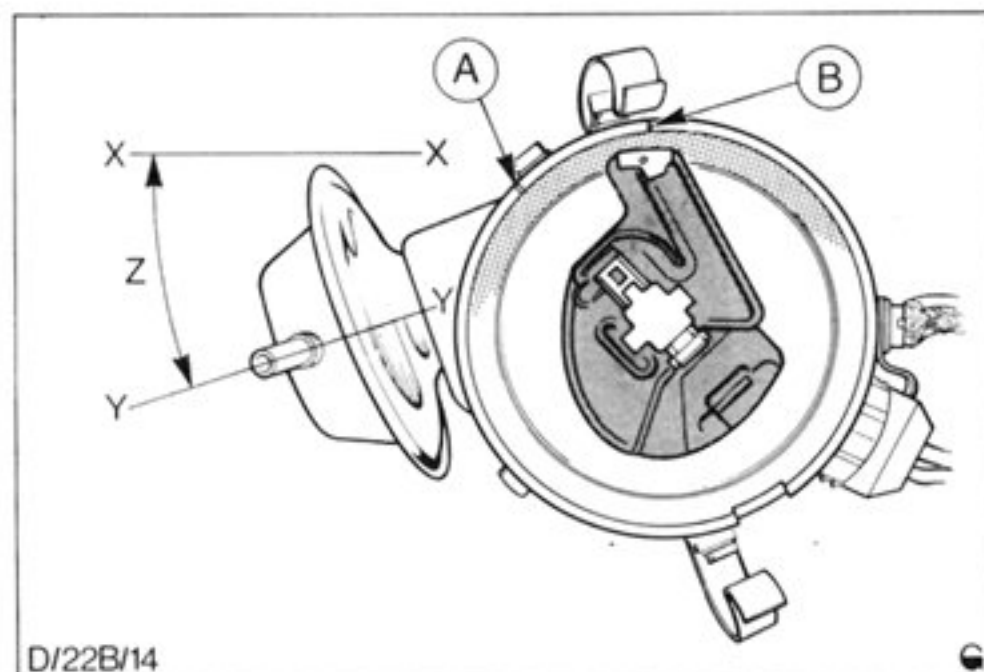

Fig.44. Distributor ready to be installed with rotor arm lined up with dot on housing.
7. Ensure engine is at  $12^{\circ}$  BTDC on No.1. cylinder. Fit rotor arm to new distributor and turn shaft until rotor arm lines up with dot punch mark on casing. Refer Fig.44. Slide assembly into position. Angle 'Z' in Fig.44, between rear face of block (line XX) and distributor diaphragm axis (line YY), should be  $0^{\circ}$  to  $14^{\circ}$  in an anti-clockwise direction.